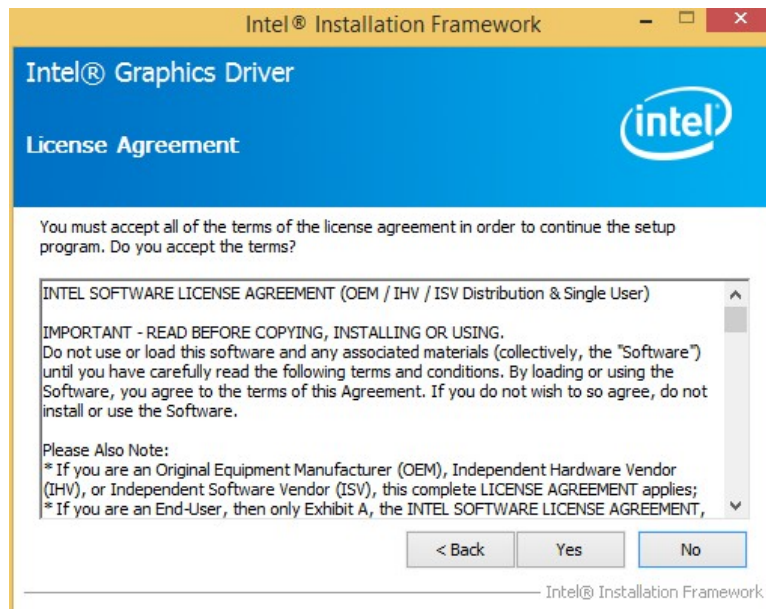

Figure 6-9: Graphics Driver License Agreement
Step 6: The License Agreement in Figure 6-9 appears.